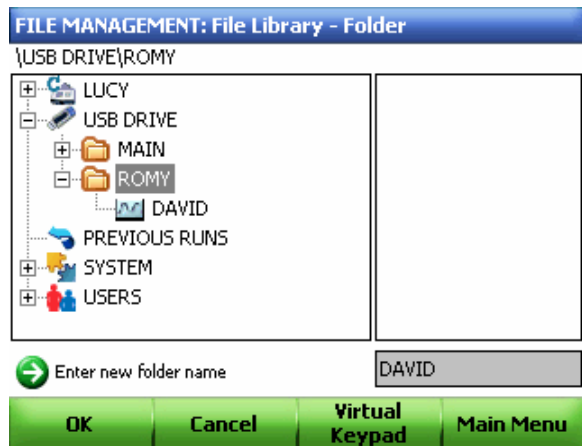

Figure 87. The new folder name is entered in the text box.
- NOTE: The **Main** folder cannot be renamed (Figure 87).